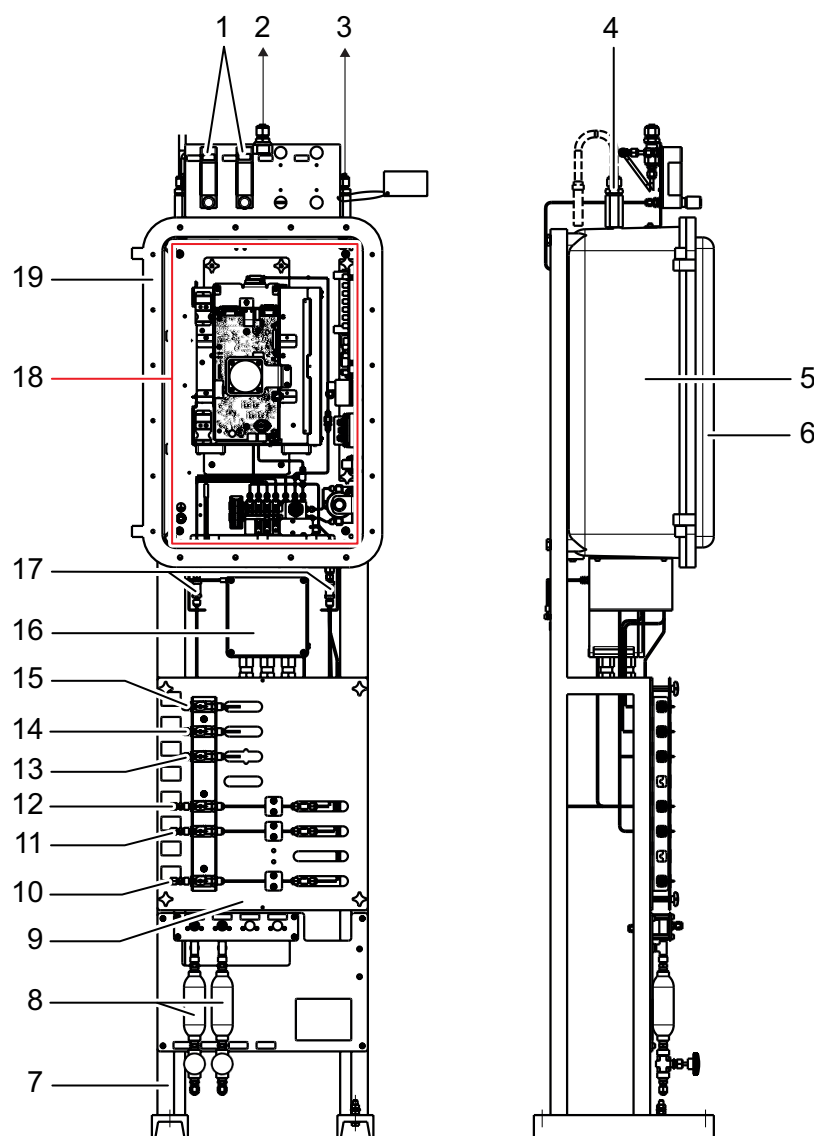

Fig. 4: Process gas chromatograph PGC 9301/PGC 9301 Biogas with housing and frame for floor-mounted assembly
- PGC 9301/PGC 9301 Biogas with housing and frame for floor-mounted assembly (see fig. 4)